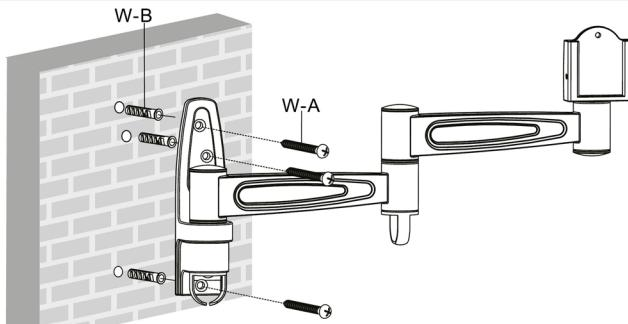

fig. 1.3
• Pre-drill these holes with a 8mm masonry bit to at least 50mm in depth. Insert a Concrete Anchor (W-B) into each of these holes. Attach the Wall Plate to the wall using three wood screws (W-A), as shown in fig.1.3.